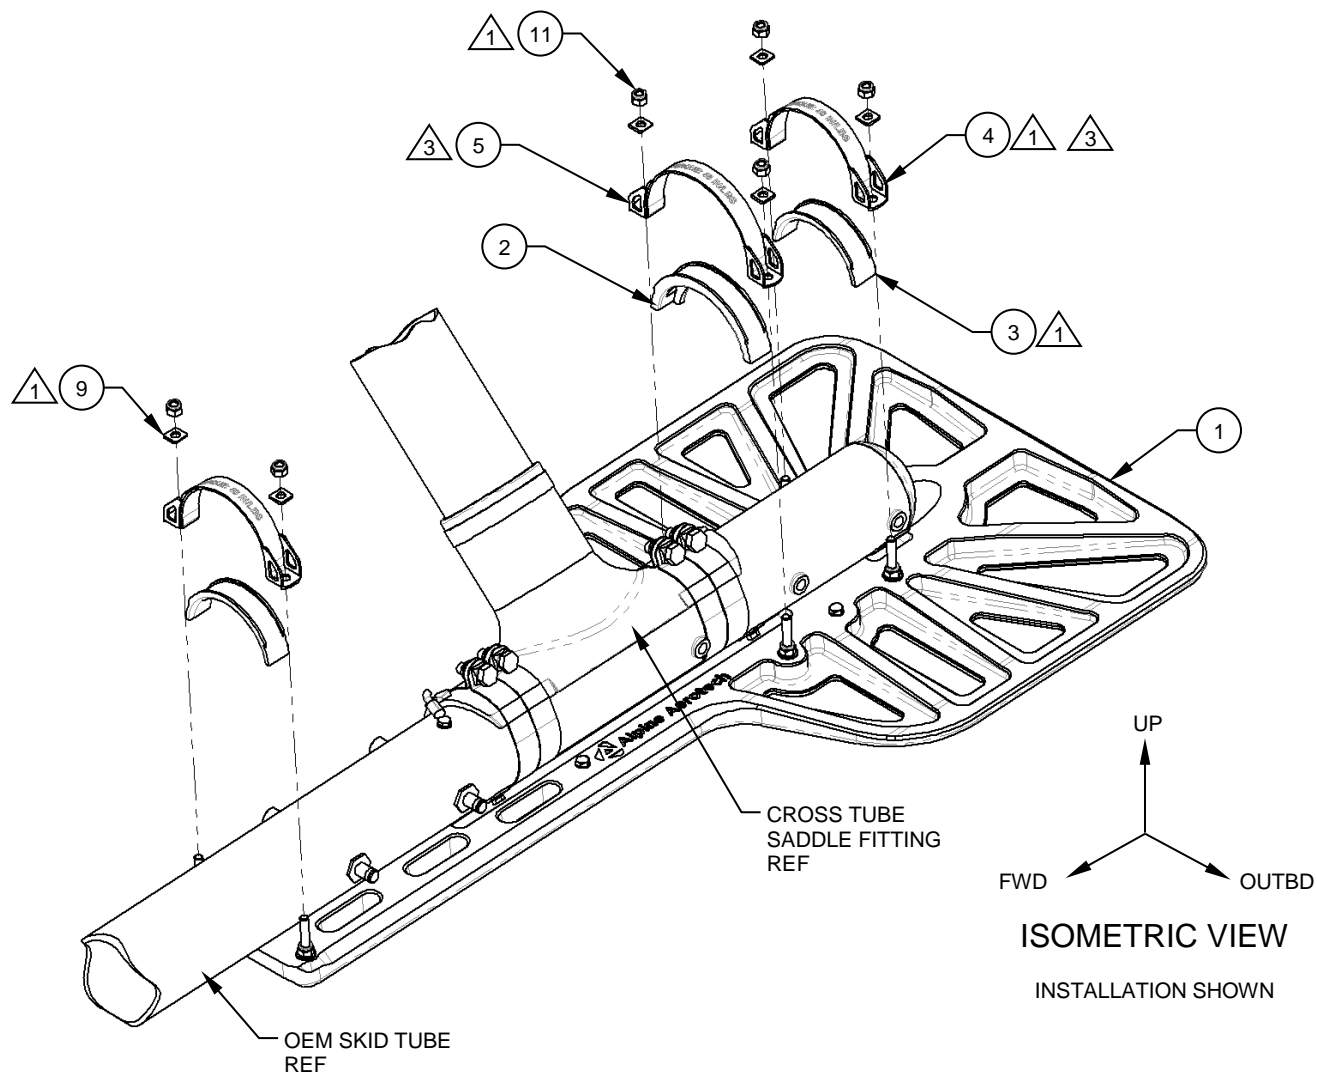
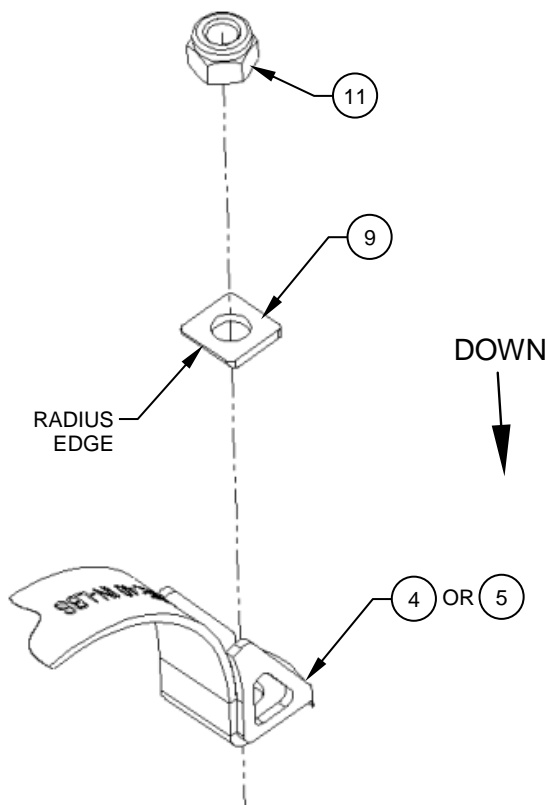

Figure 1
Figure 3
2. Remove the Strap, Assys (Items 4 & 5), Cap, Details (Items 2 & 3) and the associated Nuts (Item 11) and Radius Washers (Item 9). Raise the aircraft and remove the Bear Paw, Detail (Item 1) from under the skid tube. Reference Figure 1.
3. Repeat removal steps on the RHS. Reference Figure 1. Removal complete.
2. Raise the aircraft and position the Bear Paw, Detail (Item 1) under the skid tube. Reference Figure 1.
3. Once the Bear Paw, Detail (Item 1) is under the skid tube in its approximate location, position the Strap, Assys (Items 4 & 5) and their respective Cap, Details (Items 2 & 3) on their corresponding bolts. Reference Figure 1.
NOTE: Ensure the Aft-most Strap, Assy (Item 4) and associated Cap, Detail (Item 3) are positioned between the cross-tube saddle fitting and the existing bolt at the aft end of the skid tube. Reference Figure 1.
4. Install the supplied Radius Washer (Item 9) and Nut (Item 11) on each bolt. Reference Figures 1 & 3. Ensure the radius edge on the Washer (Item 9) is oriented down and towards the skid tube. Reference Figure 3. A thin-wall socket may be required to adequately fasten the Nut (Item 11).
5. Lower the aircraft onto the Bear Paw, Details (Item 1). After ensuring full aircraft weight on gear, torque the fasteners equally to 40 in/lbs. while ensuring the Strap, Assys (Items 4 & 5) sit roughly level. Add tare (drag) torque per standard aircraft practices as specified in AC43.13. Reference Figure 1. Apply Torque Lacquer (Item 15) or equivalent, to all fasteners common to the Strap, Assys (Items 4 & 5).